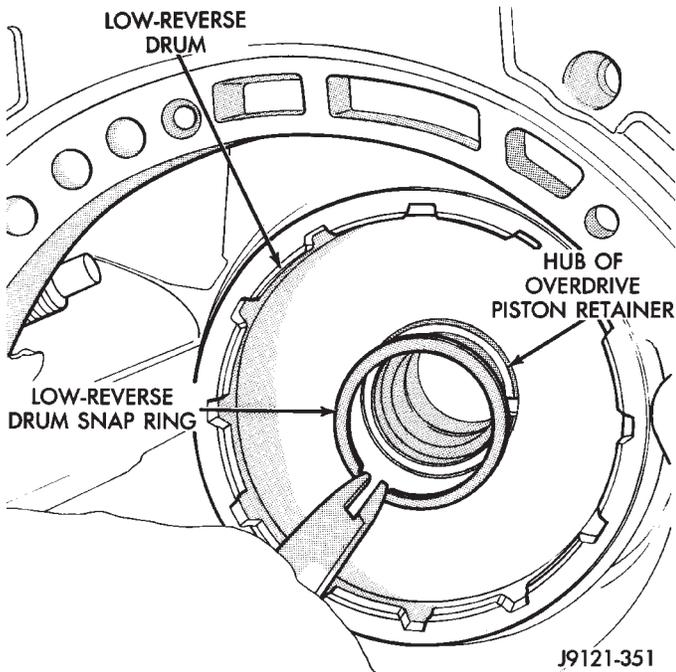

Fig. 127 Removing Low-Reverse Drum Snap Ring
(28) If overdrive unit is not to be serviced, install Alignment Shaft 6227-2 into the overdrive unit to prevent misalignment of the overdrive clutches during service of main transmission components.
(29) Loosen rear band adjusting screw 4-5 turns.
(30) Remove low-reverse drum snap ring (Fig. 127).